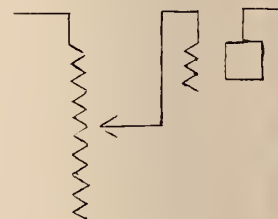

FIGURE 8
Figure 8 shows a volume control. It is the type generally used in amplifiers of recent make, and it is practically unmistakable in a diagram. Nine times out of ten, if the projectionist is looking through an amplifier circuit diagram for the volume control, he need only look for the arrangement of Figure 8. If he is going through a diagram for other reasons and comes upon that arrangement—he knows at once that's the volume control of the amplifier.
The distinguishing points about the diagram of a tone control are, generally: (1) either a variable resistor or a tap switch providing choice of settings, and (2) a condenser or inductance, or both, associated with the combination. Where such a combination is found it usually is safe to diagnose "tone control" without further investigation. If, however, both condenser and inductance are omitted from the combination, the answer is "volume control" as in Figure 8.